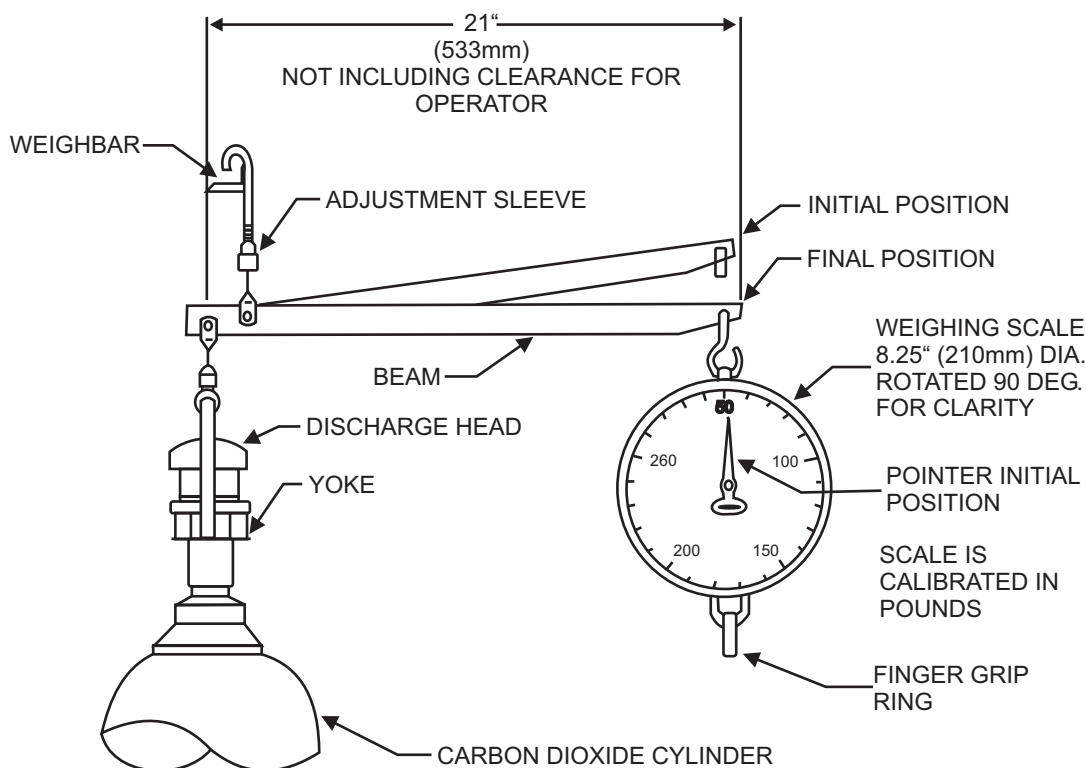

Figure 7-1. Weighing Carbon Dioxide Cylinder Using Scale P/N 81-982505-000
4. Hook scale on weighing angle and slip yoke under discharge head. Adjust lever as shown in attached diagram (Figure 7-1).